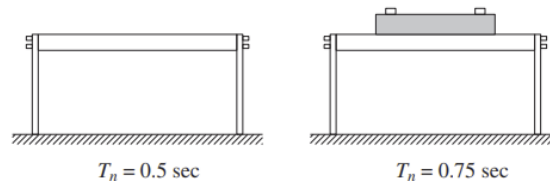

Fig. 9.1
9. A heavy table is supported by flat steel legs (Fig. 9.1). Its natural period in lateral vibration is 0.5 sec. When a 50-lb plate is clamped to its surface, the natural period in lateral vibration is lengthened to 0.75 sec. What are the weight and the lateral stiffness of the table?